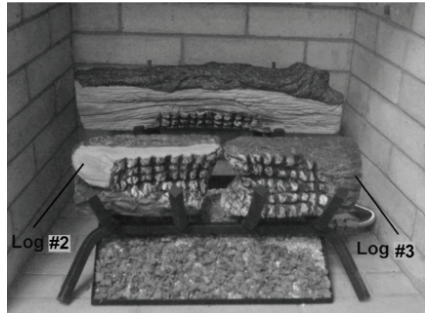

Figure 12 - Installing Front Logs #2 & #3
3. Place front logs #2 and #3 on the grate and slide forward against the front bars on the grate (see Figure 12).